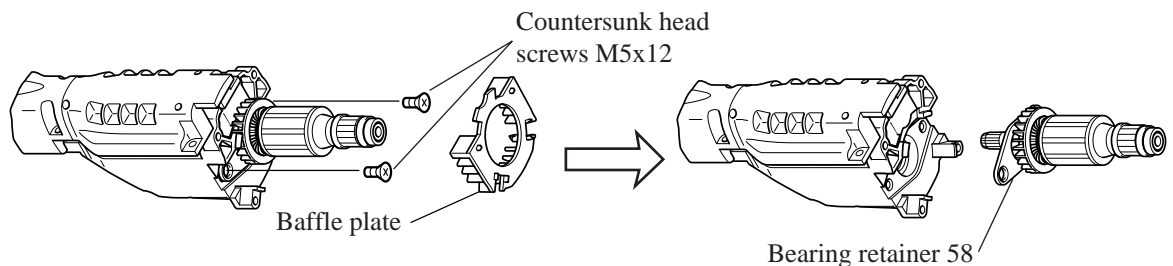

Fig. 20A
2. Remove baffle plate, and unscrew 2 pcs. of countersunk head screws M5x12, then armature can be removed together with bearing retainer 58, from gear housing section. See Fig. 20A.
**< Note > Do not fasten bearing retainer 58 with the used adhesive countersunk head screws M5x12 in the step of Fig. 20A. Always use fresh adhesive countersunk head screws.**